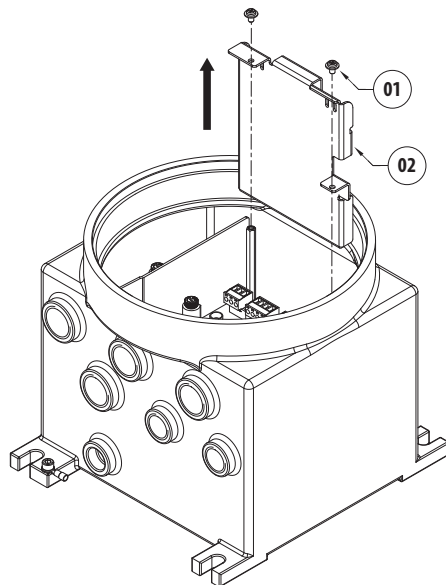

Fig. 7
Remove the screws (01) and take out the splice tray (02) (Fig. 7, page 14).